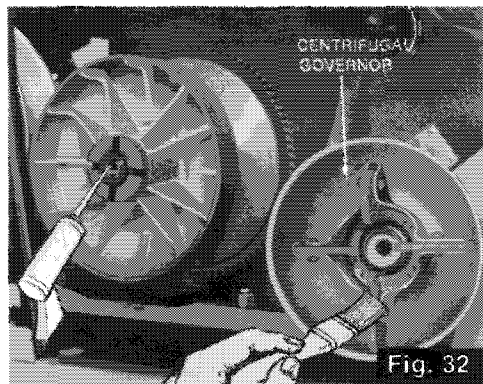

Fig. 32
4. Apply oil or grease on all moving parts of governor. (See Fig. 32).